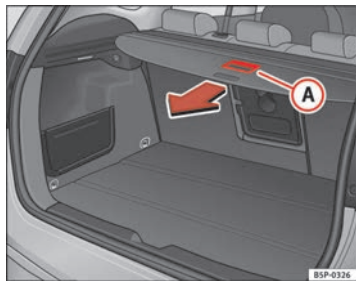

Fig. 124 Using the rear shelf
- Use the handle **A** to pull the shelf back until you hear a click → fig. 124.